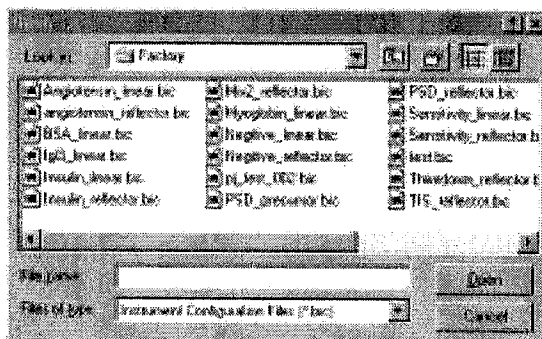

Figure 4-2 Open Dialog Box
1. Select **Open Instrument Settings** from the File menu. The Open dialog box is displayed (Figure 4-2).